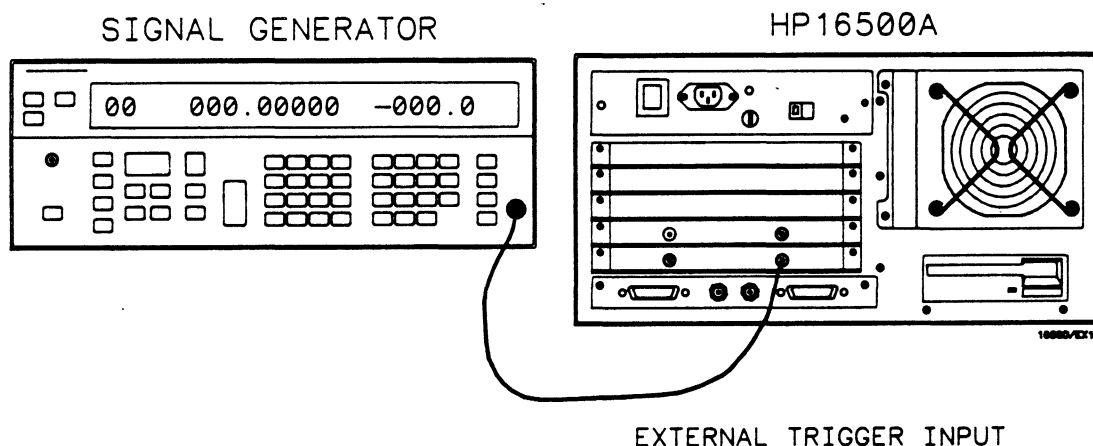

Figure 3-22. Test Equipment Hookup
- e. Connect signal generator as shown in figure 3-22.